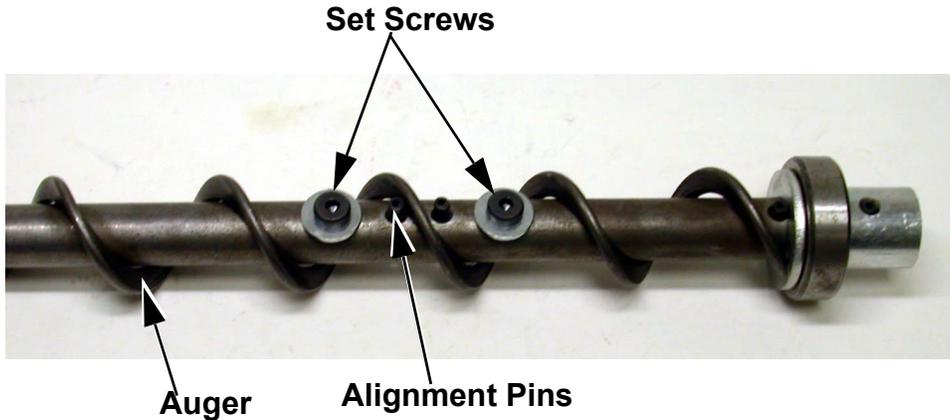

Figure 47. Auger and Anchor Bearing Connection
12. Insert the Anchor Assembly into the auger until it touches the washer at the back of the anchor. Tighten the setscrews in the center of the anchor until they touch the auger, then tighten a maximum of 1/2 turn. See Figure 47.